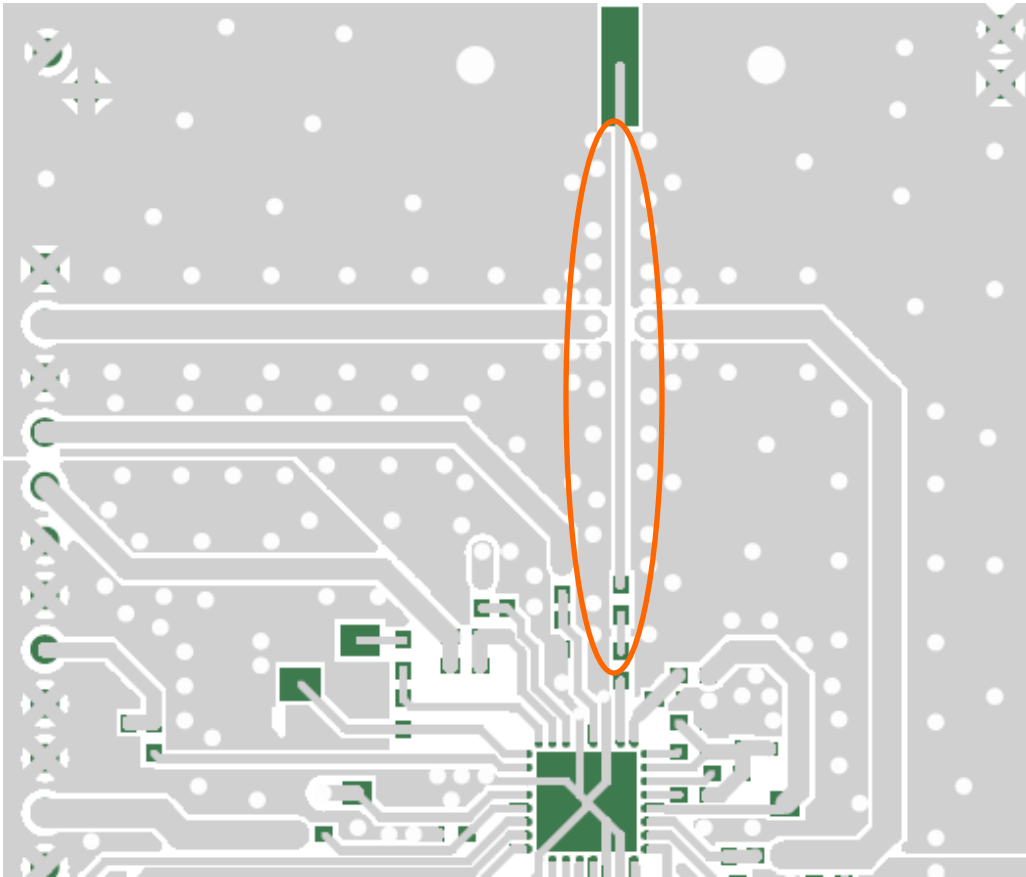

Figure 8 –Multiple ground vias around the RF input trace
- Multiple ground stitching vias are required around the RF input trace in order to minimize the potential spur coupling. Ground vias are shown as white dots in Figure 8 below.